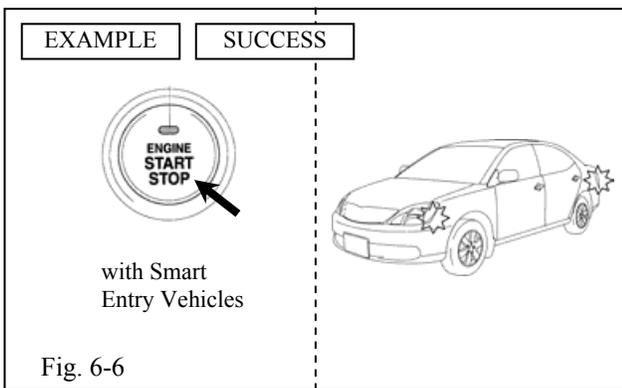

Fig. 6-6
- (i) Start the engine; after 10 seconds stop the engine. The hazard lights flash once. Registration completed. (Fig. 6-6)